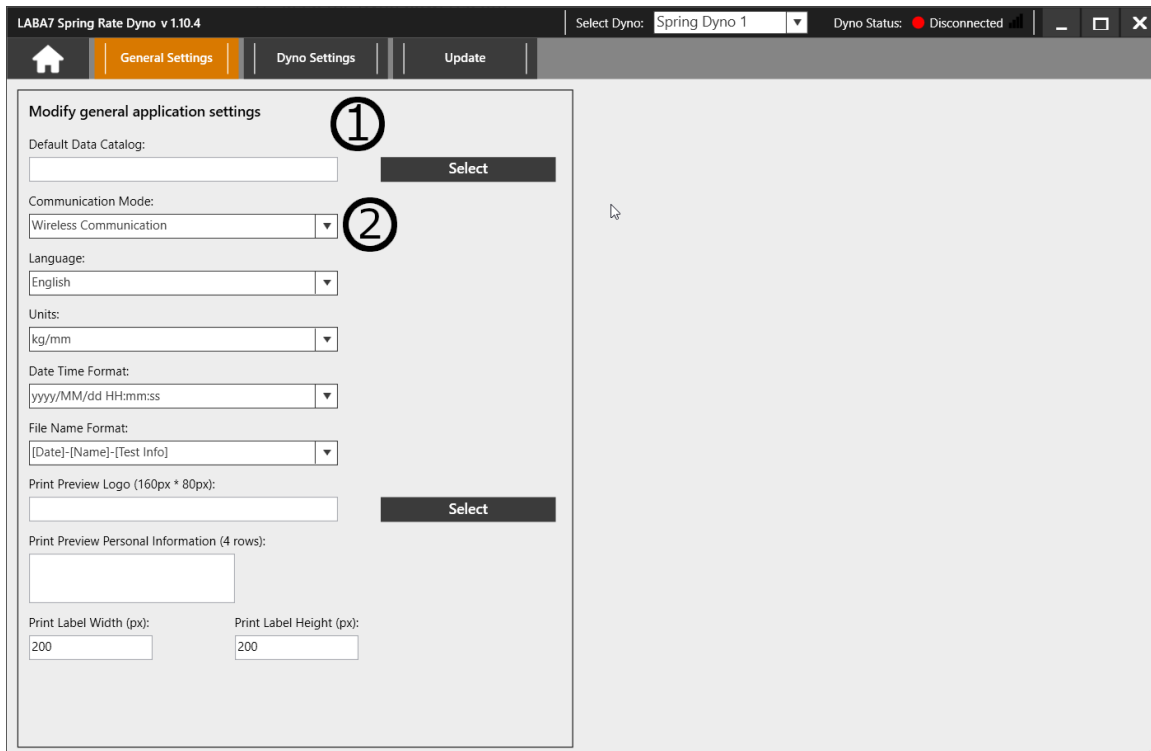

Figure 10
3. In the **General Settings** tab, select the **Default Data Catalog** by clicking on the **Select** button (Figure 10 – Step 1). This catalog will be used to store test data files.
4. Select **Communication Mode** by clicking on the drop-down menu (Figure 10 – Step 2):